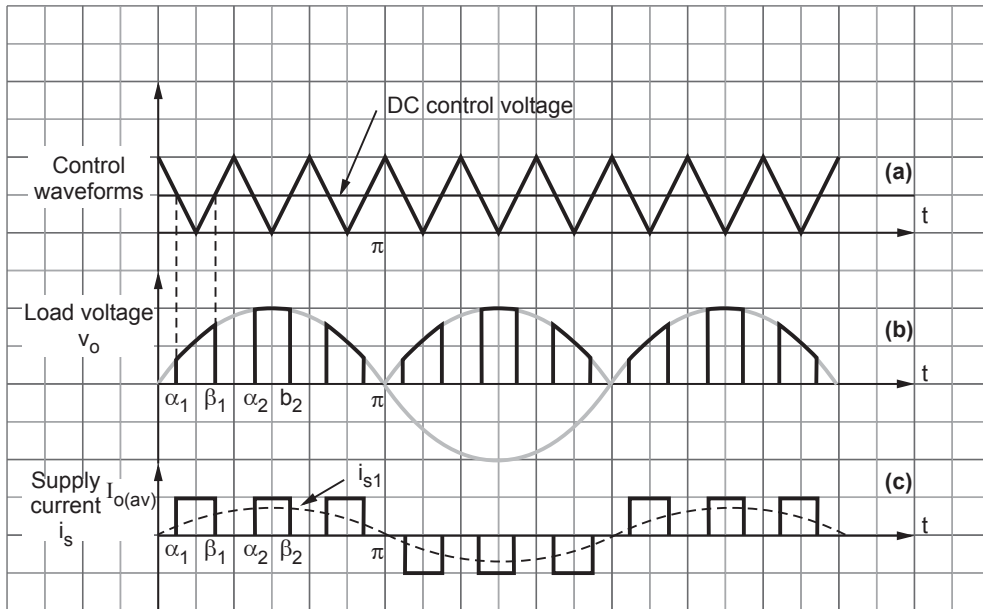

Fig. 2.5.4 Waveforms of PWM
Fig. 2.5.4 shows the waveforms of PWM.
- The SCR T_1 is triggered at α_1 and commutated at β_1 . This results first pulse of voltage across output as shown in Fig. 2.5.4 (b). Again T_1 is triggered at α_2 and commutated at β_2 . This repeats till π .
- In one half cycle there are multiple pulses of output. The average value of output voltage can be varied by changing amplitude of DC control voltage in Fig. 2.5.4 (a).